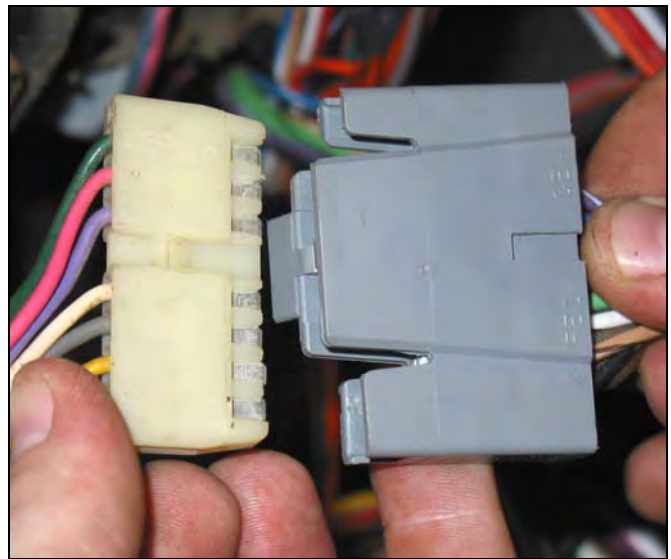

Figure 7.4.2 *Wiper Switch Connection*
- 7.4.2 The WIPER SWITCH wires come pre-terminated with a connector installed. Slide the connector onto the WIPER SWITCH pigtail. (see **Figure 7.4.2**) This will be the wires coming from the column with the white connector.